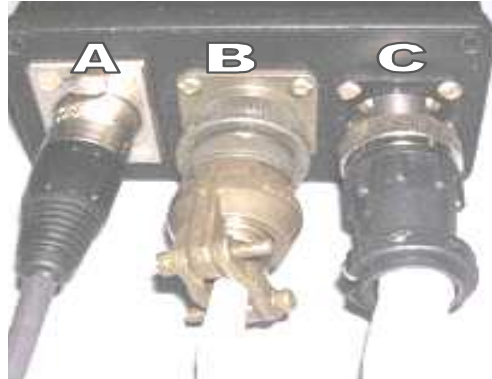

Figure 1.8: Position Control Box attachment
- (1) The electrical supply is comes from the rotorcraft's 28V accessory power breaker (7.5 to 20 amps.) MS3101 A 14S-1S plug and wiring is included with the camera system. This plug must be wired so that PWR-001-18 (Pin A) is attached to +28V and GND-001-18 (Pin C) is grounded.
- (2) Attach the base unit harness (A), the main power harness (B), and the camera system harness (C) to the Position Control Box as shown in Figure 1.8.